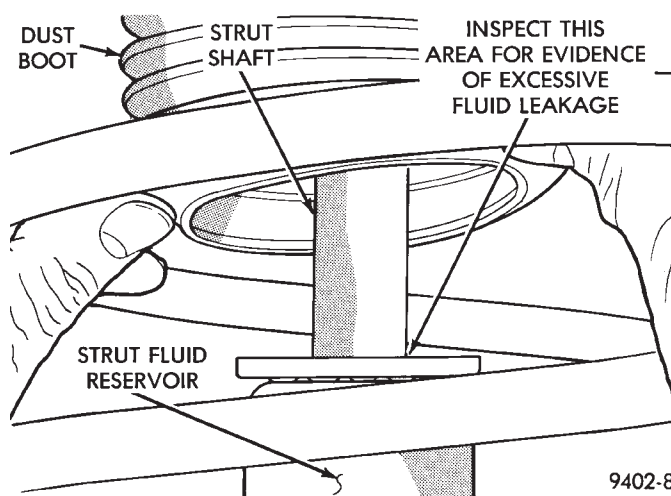

Fig. 4 Strut Assembly Leakage Inspection
- (4) Lift dust boot and inspect strut assembly for evidence of fluid running from the upper end of fluid reservoir. (Actual leakage will be a stream of fluid running down the side and dripping off lower end of unit). A slight amount of seepage between the strut rod and strut shaft seal is not unusual and does not affect performance of the strut assembly (Fig. 4). Also inspect jounce bumpers for signs of damage or deterioration.